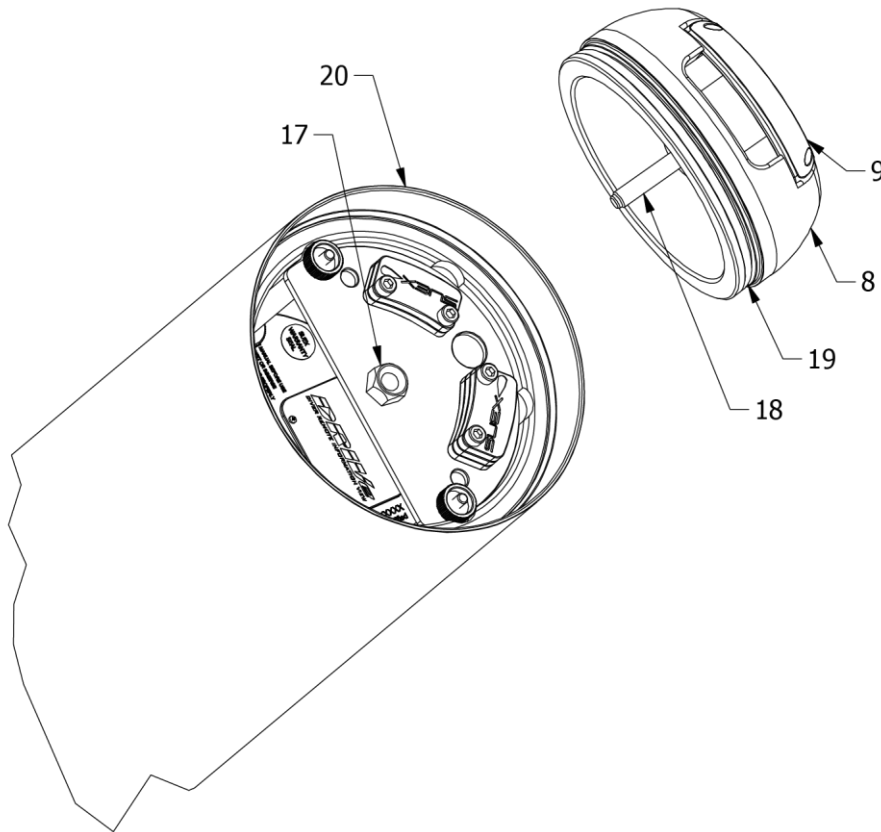

Fig.6 - Closing the battery compartment
Always with the scooter upright on the guard, carefully check that the closing O-ring gasket (19 - Fig.6) is inserted in its seat, clean and adequately lubricated with vaseline oil. Also check the cleanliness of the body seat (20), if necessary wipe with a clean microfibre cloth to remove dust or sand. Insert the bow cap (8) by matching the screw (18) with the hole (17). Turn the handwheel (9) clockwise until completely closed without over tightening using only the force of two fingers.